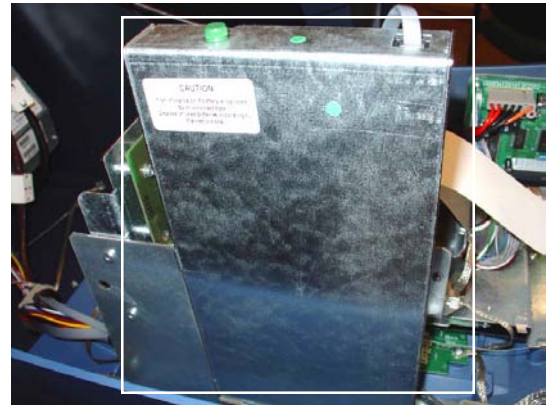

Figure 1. Main board assembly.
1. Open the control panel hood. Turn the power switch on the power supply to the OFF (0) position.
2. Locate the main board assembly shown in Figure 1. Unplug the telephone line.